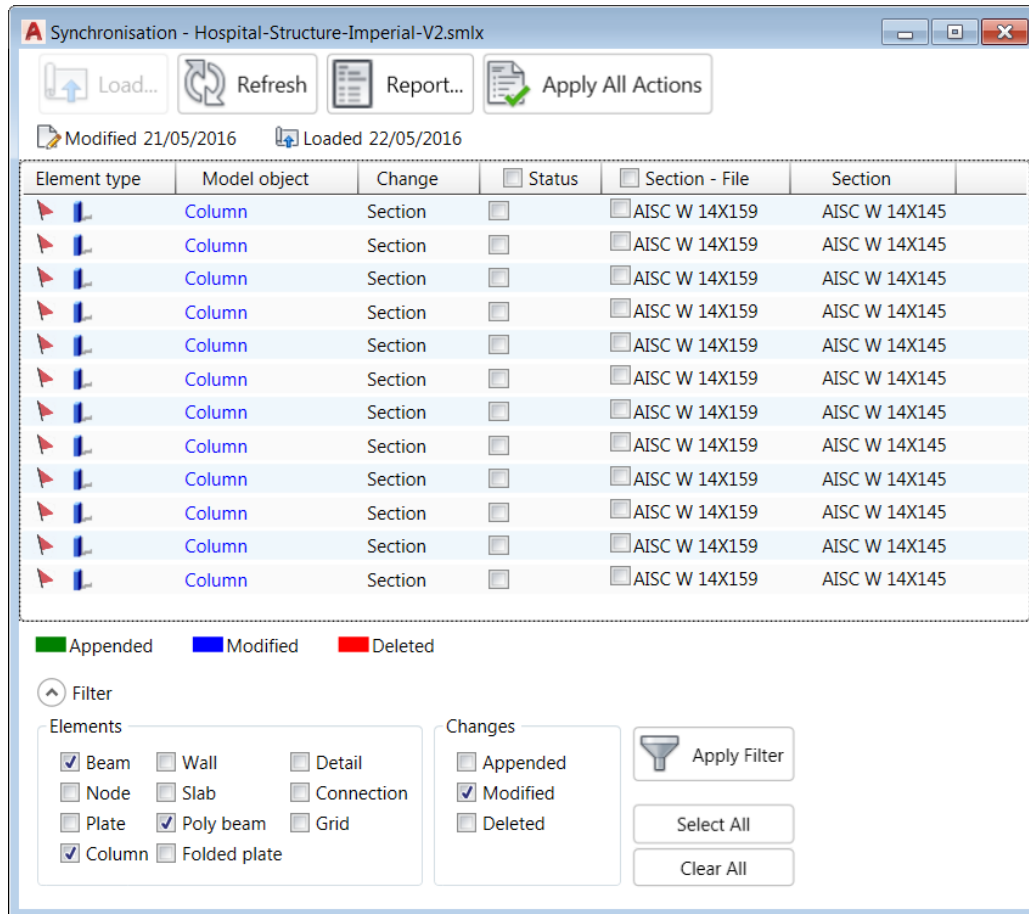

FIGURE 26: THE SYNCHRONIZATION DIALOG BOX SHOWING ALL THE CHANGES
3. Expand the dialog box by clicking on the **Filter** button on the lower left corner, as shown in Figure 26.
Tip: It is extremely important to understand what are the changes listed in the dialog box. Sometimes, the changes are only showing the beam cut created in Advance Steel due to the joints that were created. However, if the **Change** column shows **Section**, in addition to the other changes, it means the section of the member has been changed, as shown in the **Section – File** and **Section** columns in Figure 26.